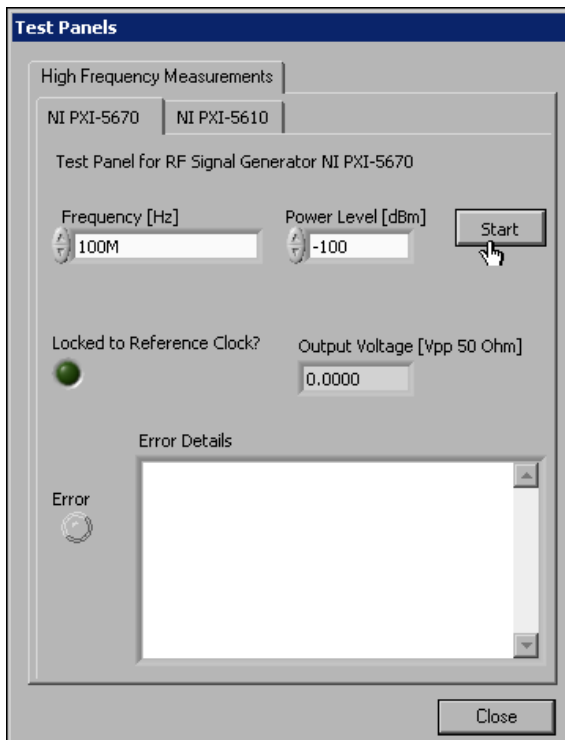

Figure 1-21. The NI PXI-5670 RF Vector Signal Generator Test Panel
19. In the **NI PXI-5670** tab of the Test Panels dialog, specify a frequency and a power level for signal generation as shown in Figure 1-21.